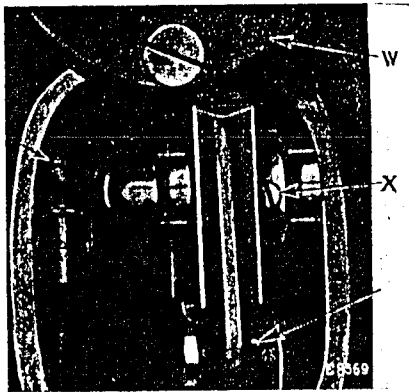

FIG. 13. ADJUSTMENT FOR TIMING THE FEEDING MECHANISM
When it is necessary to time the feeding mechanism, turn up the plate (W, Fig. 13) on the side of the upright part of the arm and loosen the two feed cam set screws (X), one being located on each side of the cam. Then turn the cam until the feed is correctly timed, as instructed above, after which securely tighten the two set screws (X).